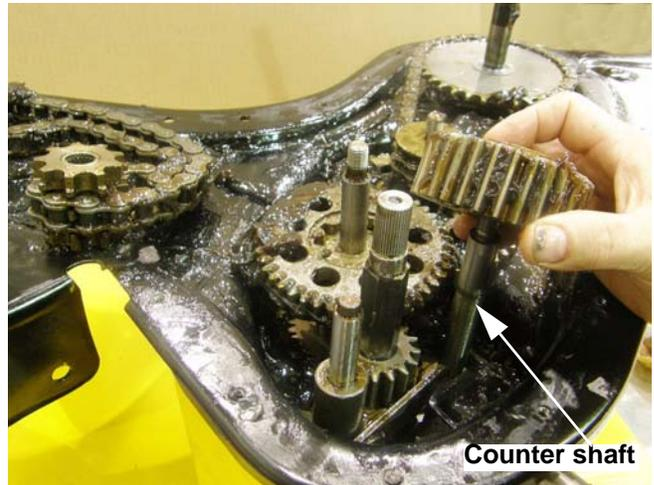

Figure 5.64
5. Lift the top gear and washer off of the counter shaft. See Figure 5.64.